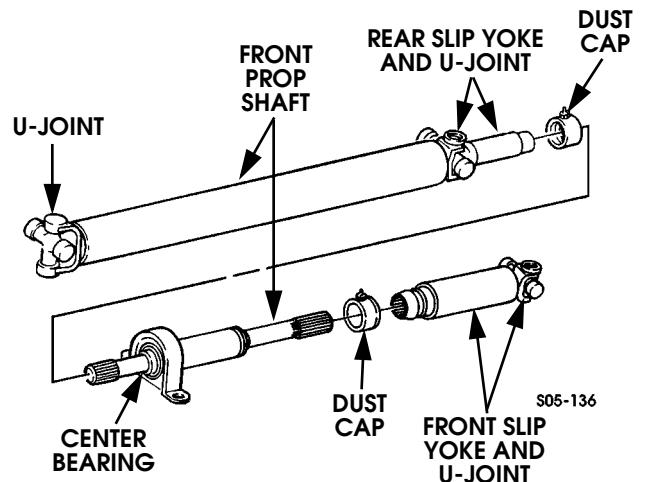

Figure 9-116:
2. Mount shaft in vise and remove dust caps (Figure 9-116).